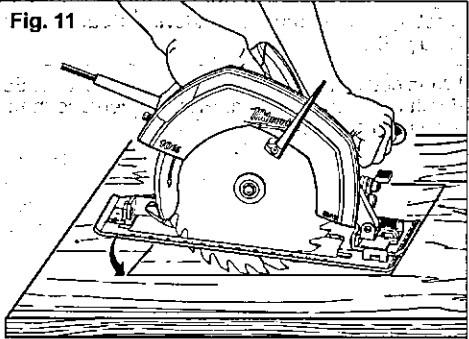

Fig. 11
2. Pull trigger. Allow the blade to come to full speed. Using front of shoe as a hinge point, gradually lower back end of saw into workpiece (Fig. 11).